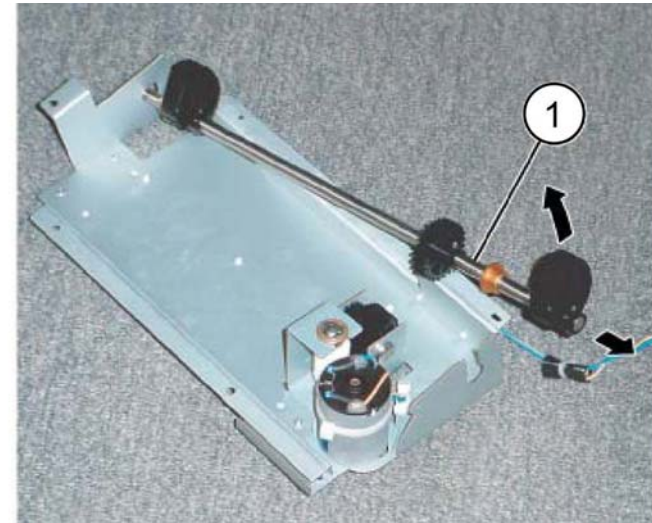

Figure 8 Stacker shaft assembly removal
12. Remove the stacker shaft assembly in the direction of the arrow, Figure 8.